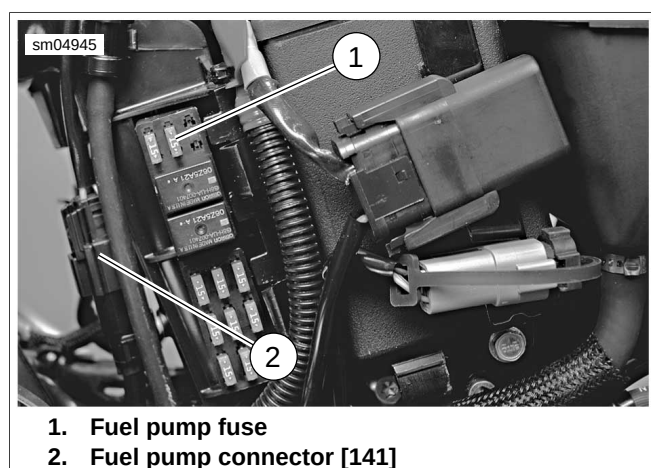

Figure 4-19. Fuel Pump Fuse and Connector
- b. See Figure 4-19. Remove fuel pump fuse (1) located in fuse panel in front of battery.
9. See Figure 4-19. Unplug fuel pump connector [141] (2).